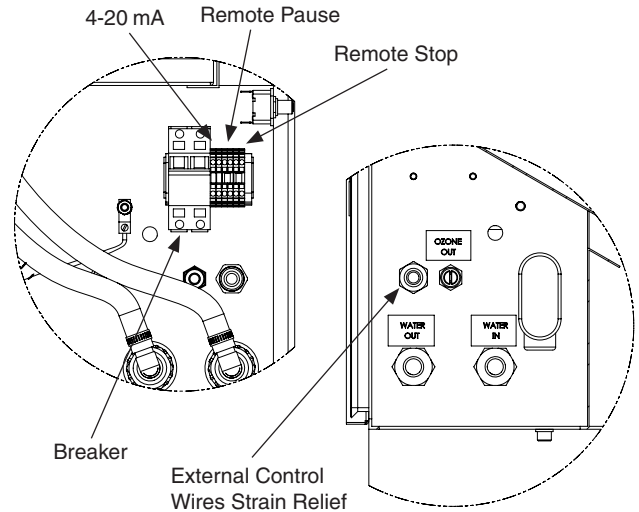
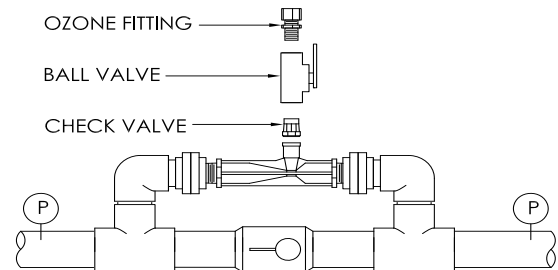

Figure 1: Generator Connectors
Figure 2: Injector Assembly
3. Connect Water In/Out: ½" FPT fittings are provided on field connection panel as shown in **Figure 1**. Plumb the cooling water from a clean, filtered source using copper, PTFE, or PVC tubing. **DO NOT USE WATER HIGH IN CHLORIDE!** Flow requirements for each unit are listed in the specifications label on the inside of the cabinet door.
4. Connect Ozone Out: A ¼" FPT stainless steel fitting is provided on the field connection panel as shown in **Figure 1**. Plumb the ozone output to the injector assembly input via a stainless steel ball valve and check valve. **See Figure 2**. Ozone supply tubing must be constructed of 316 stainless steel or rigid PTFE tubing. Use of any other material will lead to failure of the tubing and cause vacuum loss or allow ozone to escape the system.
5. **Electrical Connection:** Connect input power and ground to the main circuit breaker and din rail terminal located on the inside of the field connection panel (*See Figure 1*). Power requirements for each generator are listed in the specifications label on the inside of the cabinet door.